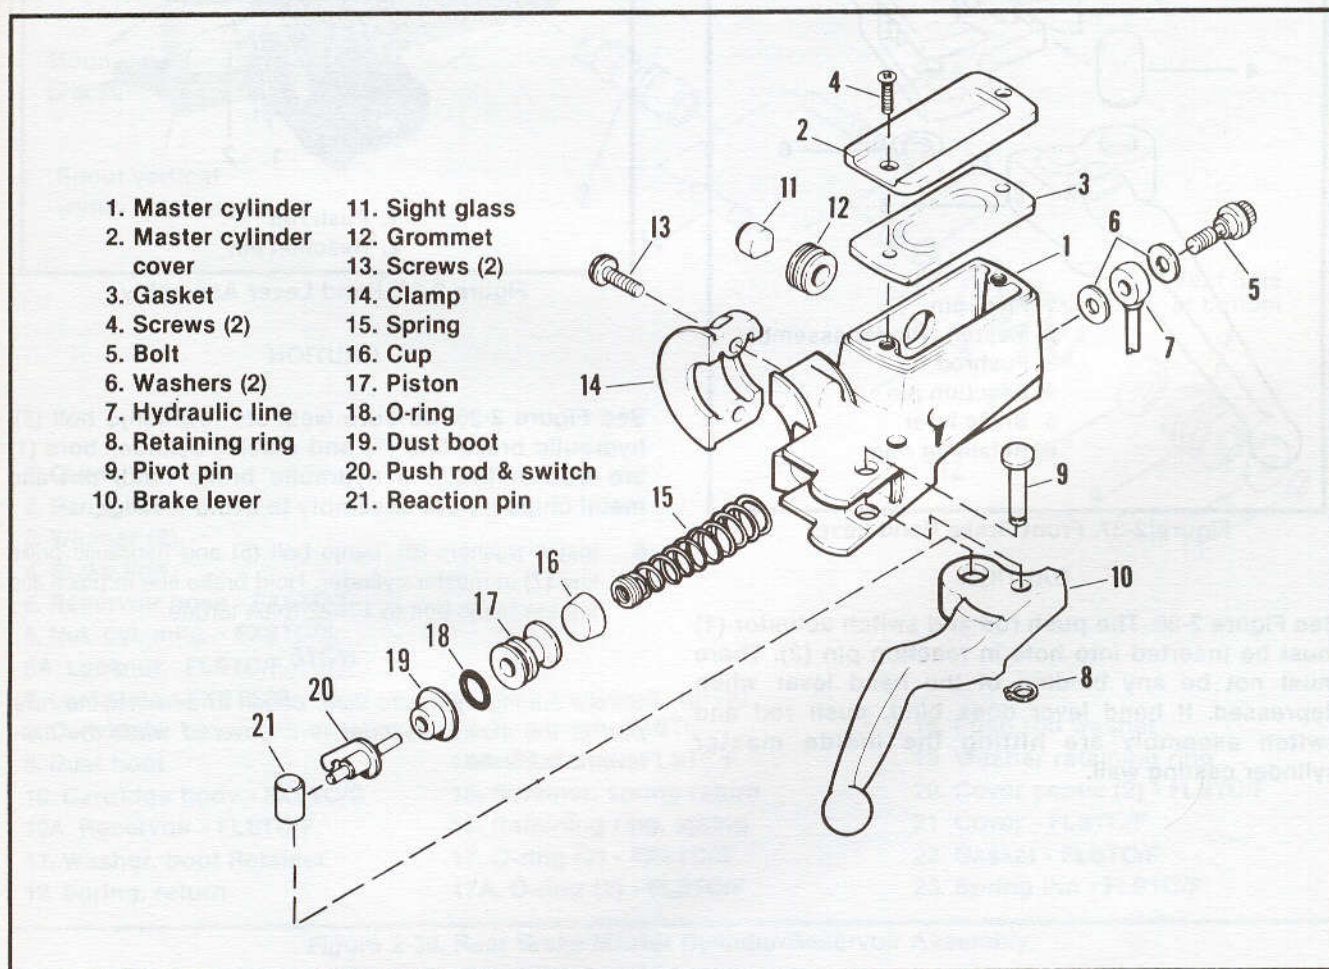

Figure 2-36. Front Master Cylinder
REMOVAL/DISASSEMBLY (Figure 2-36)
CLEANING, INSPECTION AND REPAIR (Figure 2-36)
5. See Figure 2-36. Install master cylinder to handlebar by installing clamp (14) and screws (13). Tighten screws to 70-80 in-lbs torque.
See Figure 2-36. Be sure washers (6), banjo bolt (5), hydraulic brake line (7) and master cylinder bore (1) are free of D.O.T. 5 hydraulic brake fluid, dirt and metal chips before assembly to avoid leakage.
6. Install washers (6), banjo bolt (5) and hydraulic brake line (7) in master cylinder. Hold brake line in place and tighten banjo bolt to 17-22 ft-lbs torque.